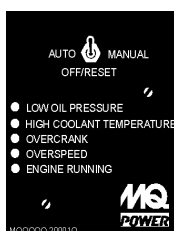

Figure 11. MPEC
9. **Pre-Heat Button** – Press hold this button until the preheat lamp is lit (ON).
10. **MPEC – Microprocessor Engine Control Module** – (MPEC) has a vertical row of status LED's (Figure 11), that when lit, indicate that an engine malfunction (fault), has been detected. When a fault has